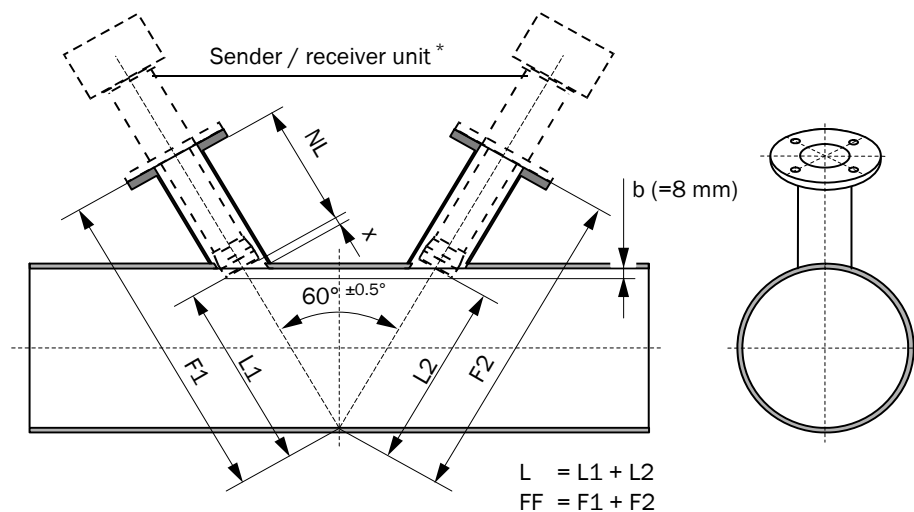
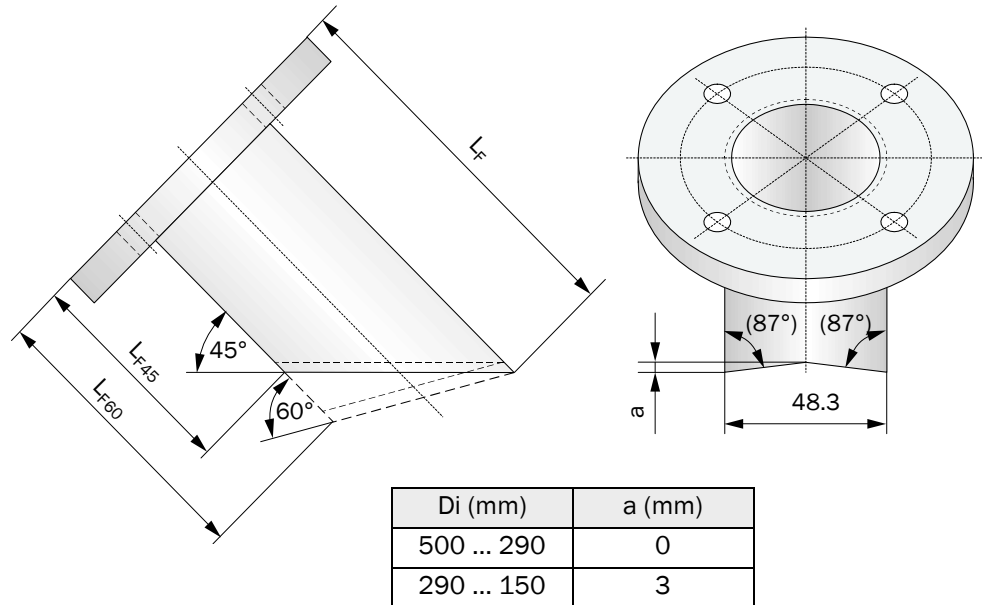

Fig. 3.11: Mounting the flanges with pipe
Fig. 3.12: Adapting the flanges with pipe
There are two installation options (see Fig. 3.11):
- ▶ If necessary, adapt the flange pipes to the wall curvature as shown in **Fig. 3.12**.
The length of the flange pipe  $L_F$  ( $L_{F45}$ ,  $L_{F60}$ ) depends on the mounting angle  $\alpha$ , wall thickness  $w$ , and nominal length  $NL$  (see **Fig. 3.11** and **Fig. 3.12**). This correlation is expressed by the following formulas:
A pipe with a suitable diameter can be used to align the flanges for face-to-face mounting. Once the flanges have been welded into position, measure the dimensions F-F (see Fig. 3.11) and make a note of them for configuring the parameters subsequently.